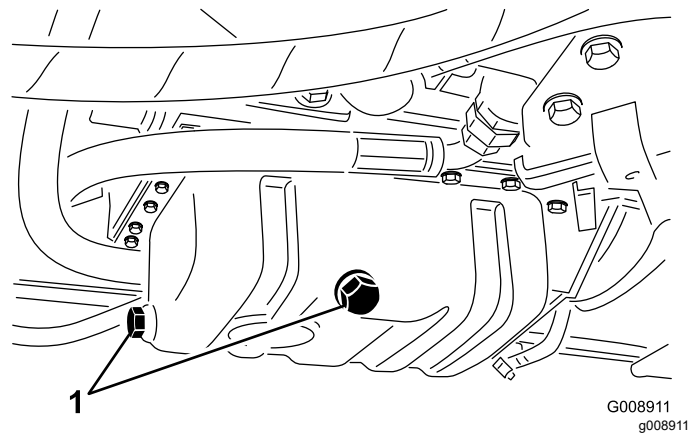

Figure 53
1. Remove either drain plug (Figure 53) and let oil flow into a drain pan. When the oil stops flowing, install the drain plug.